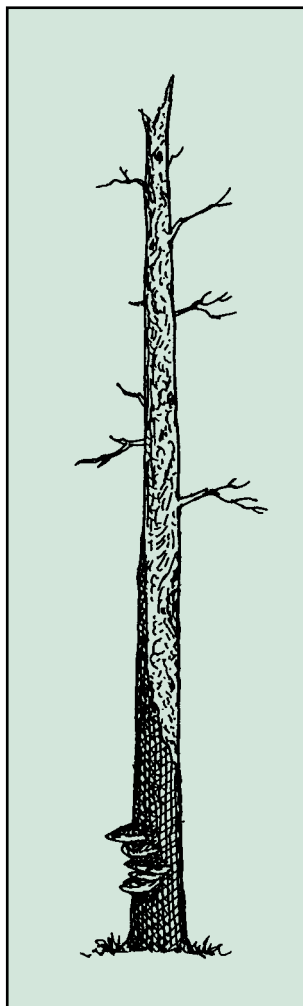

Fig. 8. — Reserve tree Type 4.
**Type 4** reserve trees are live or dead with unstable trunk or roots, with or without bark. This includes “soft” snags as well as live trees with unstable roots caused by root rot or fire. They are considered the most dangerous type (Fig. 8).